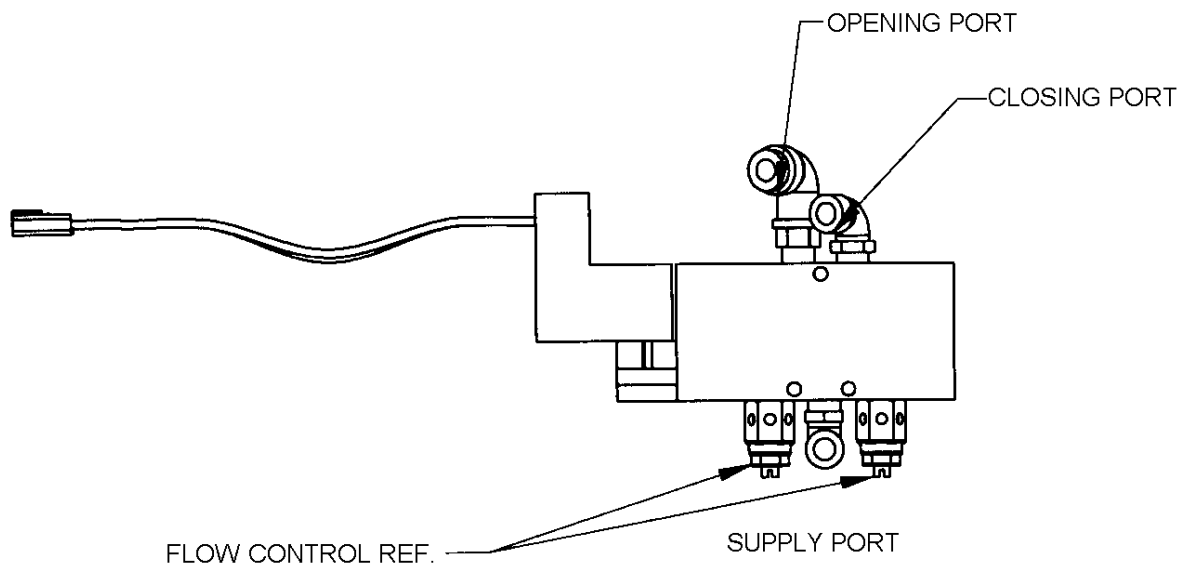

Figure 1
1. **The information in steps 1.1-1.4 is only for doors with the Viking valve. (Figure 1) This valve was used on units with start dates from 2/21/05 through 4/18/06.**